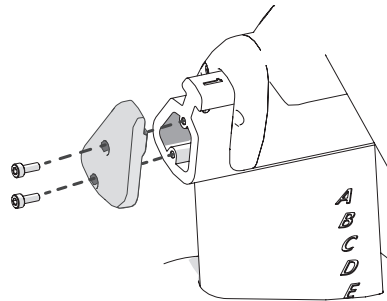

Figure 11
- 3. Attach the handlebar post end cap ❹ using two bolts ❸ (Figure 11) and fully tighten with the hex key ❷.